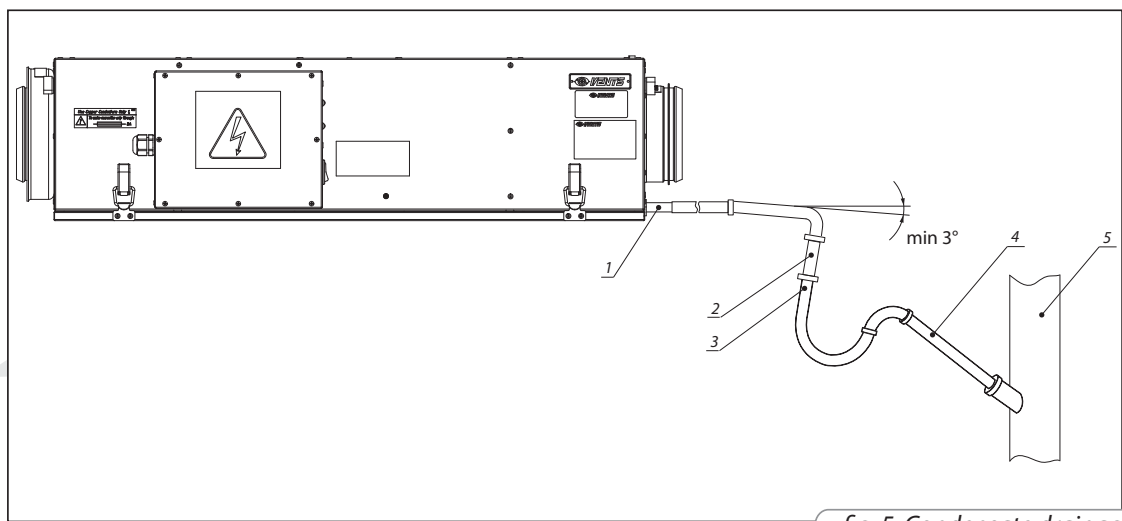

fig. 5. Condensate drainage
The Vents Frigate HRV 100 (150) DS and Vents Frigate TRV 100 (150) DS units are equipped with a condensate drain hose for condensate drainage (fig. 5). Connect the drain hose (1), U-trap (3) and drain system (5) with metal, plastic or rubber pipes (2 and 4). The pipes must be sloped down at least by 3°. Before starting operation of the unit fill the system with water and check that U-trap is always filled with water. Make sure that the water drainage is correct, otherwise some condensate may be accumulated inside the unit and provoke subsequent equipment damage and water ingress to the room. The condensate drainage system is designed for operation at the ambient temperature above 32 °F (0 °C). If the ambient temperature is below 32 °F (0 °C), insulate the drain system and provide air heating.